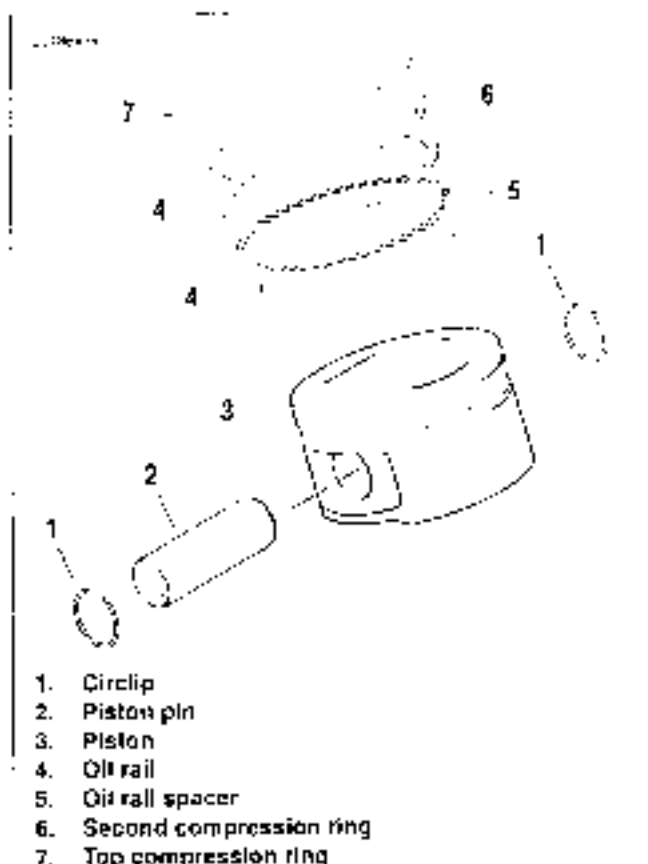

Figure 3-113. Piston Assembly
1. See Figure 3-113. Carefully remove top (7) and second (6) compression rings using the proper piston ring expander (Snap-On PRSE).
2. Using your fingers, remove the oil rail spacer (5) from the third ring groove. Remove top and bottom oil rails (4).